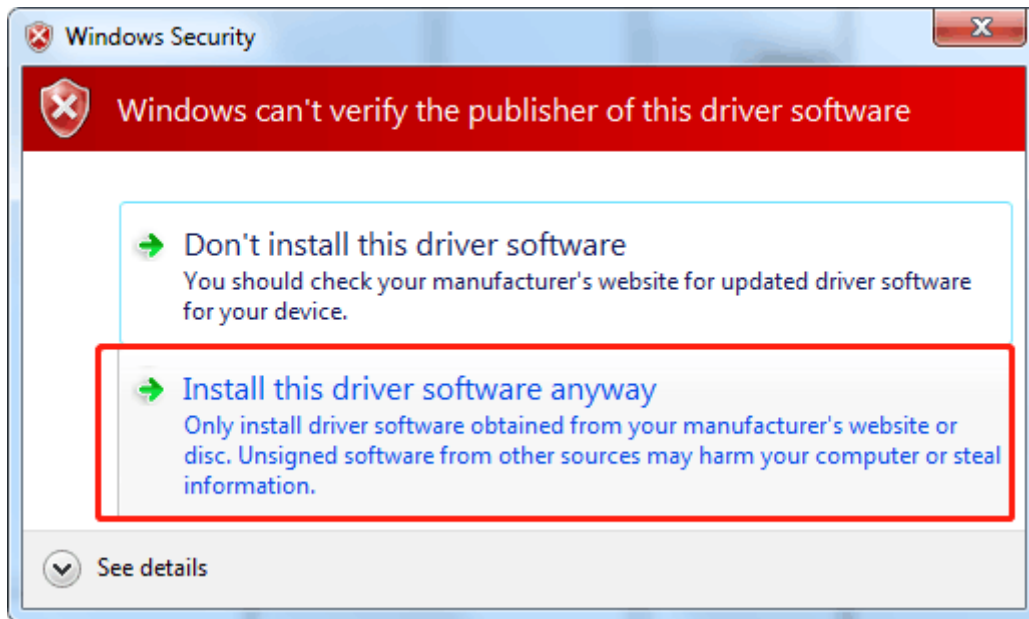

Figure 1.7
5) Click "always install this driver software" in the popup window as shown in figure 1.7